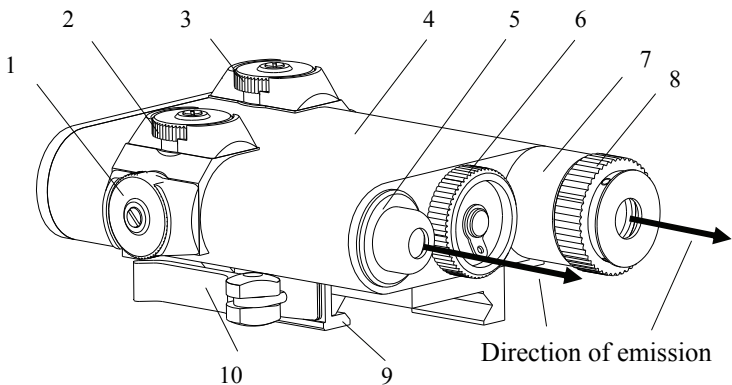
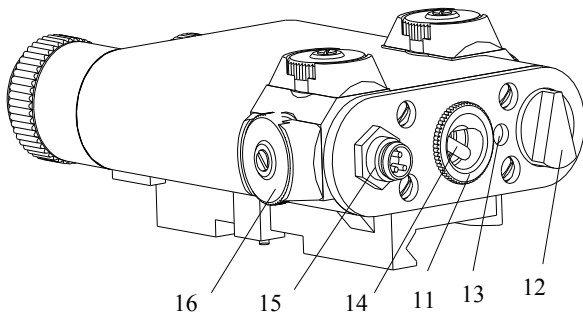

Fig. 1 — LAM 2 IR front view
Fig. 2 — LAM 2 IR rear view
The unit consists of two laser emitters – aimer (5, Fig. 1) and illuminator (7, Fig. 1) – combined in one housing (4, Fig. 1) with interaxis distance of 44.8 millimeters. The unit is powered by a lithium battery (CR123 type). Battery is installed between aimer and illuminator and covered with battery compartment cover (6) attached to the housing.
The junction of battery compartment cover (6, Fig. 1) and housing (4, Fig. 1) is sealed with rubber O-ring.
Beam divergence can be changed in between 3 and 105 mrad (0.2°-6°) by turning the grooved adjustment ring (8, Fig. 1).
In **BT** mode the LED (13, Fig. 2) indicates battery level: solid red LED means the battery charge is normal, if it is blinking - the battery must be replaced.
The unit can operate at high and low power levels of laser. An appropriate level can be chosen with switch (14, Fig. 2).
To prevent unintentional switching to high power mode, switch (14, Fig. 2) is blocked with the ring (11, Fig. 2). To unblock the switch and allow high power mode (H) the ring must be pulled out and turned.
The unit can be turned on either with a switch (12, Fig. 2) or with a remote control pressure switch, when it is connected through the remote control connector (15, Fig. 2). When the remote button is connected, switch (14, Fig. 2) only pre-selects modes, but does not activate them; the unit only goes on in selected mode while the remote button is pressed. Connector (15, Fig. 2) should be covered with the cap when it is not used. The remote button can be attached to a rifle pivot or grip with provided Velcro tape.
The unit has independent windage / elevation adjustment mechanisms for aimer and illuminator channels. Knobs (1, Fig. 1) and (2, Fig. 1) adjust aimer channel, while knobs (3, Fig. 1) and (16, Fig. 2) adjust illuminator channel. Rotation of the adjustment knobs moves radiation spots on the target. Directions of adjustment are marked on the knobs with **UP** (beam moves up) and **R** (beam moves right).
- Ensure the mode switch (12, Fig. 2) is in OFF position.
- Unscrew battery compartment cover (6, Fig. 1) and insert the battery observing the polarity marked on the body. Screw back the cap (6, Fig. 1) tightly.
- Mount the unit on Picatinny rail using throw lever mount (10, Fig. 1) so that the laser emission is directed towards the target;
- If desired, connect the remote switch cable to the connector (15, Fig. 2) and tighten the nut. Fix the remote switch on the
10. Superpose centers of the spots produced by the aimer and illuminator on the aiming mark by rotating adjustment knobs (1, Fig. 1), (2, Fig. 1), (3, Fig. 1), (16, Fig. 2).